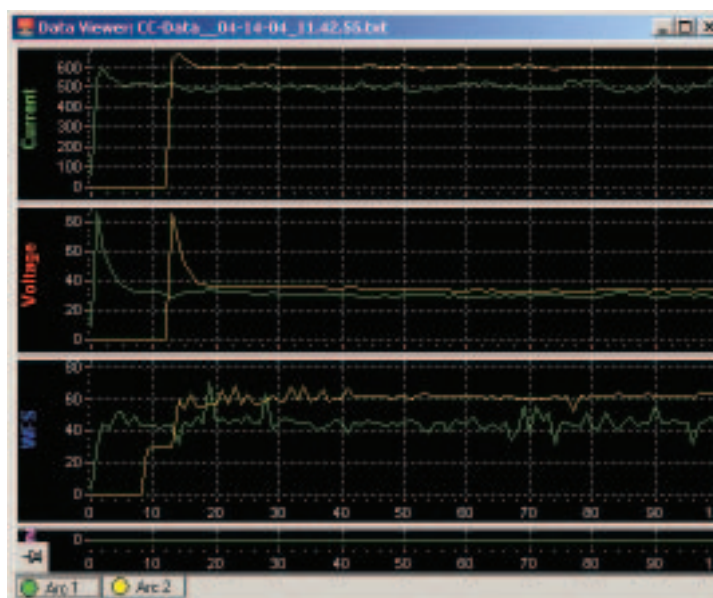

Figure 8
5. The entire welding sequence can be monitored and data recorded in real-time to verify results (Figure 8).